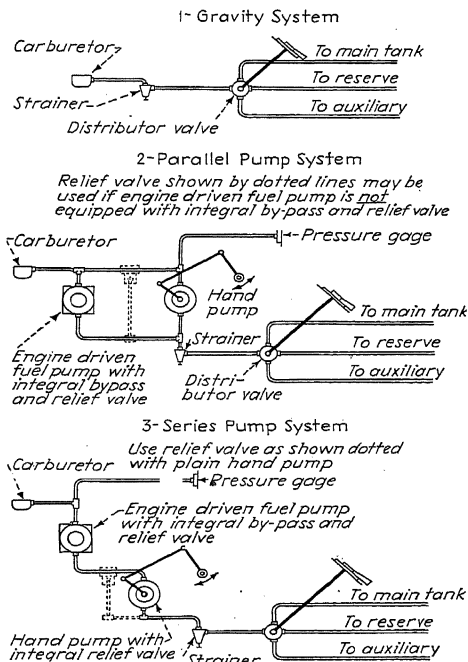

FIG. 8.—Three types of fuel feed systems.
Current aircraft fuel systems may be classified under three general headings: (1) gravity system, (2) parallel pump system, (3) series pump system. These are shown in Fig. 8.
*Parallel Pump System.*—Where the location of the fuel supply tanks is such that the foregoing gravity system requirements cannot be met, the parallel pump system is recommended. This has been highly successful. It has been used in a great number of military aircraft. Its simplicity and positive action warrant its serious consideration. As will be seen in Fig. 8, the parallel pump system requires a minimum amount of fuel piping and accessories. No by-pass valve is required for normal or emergency operation. A single relief valve, built integral with the modern engine-driven fuel pump, relieves the excess fuel handled by both the engine driven and manually operated hand pump.